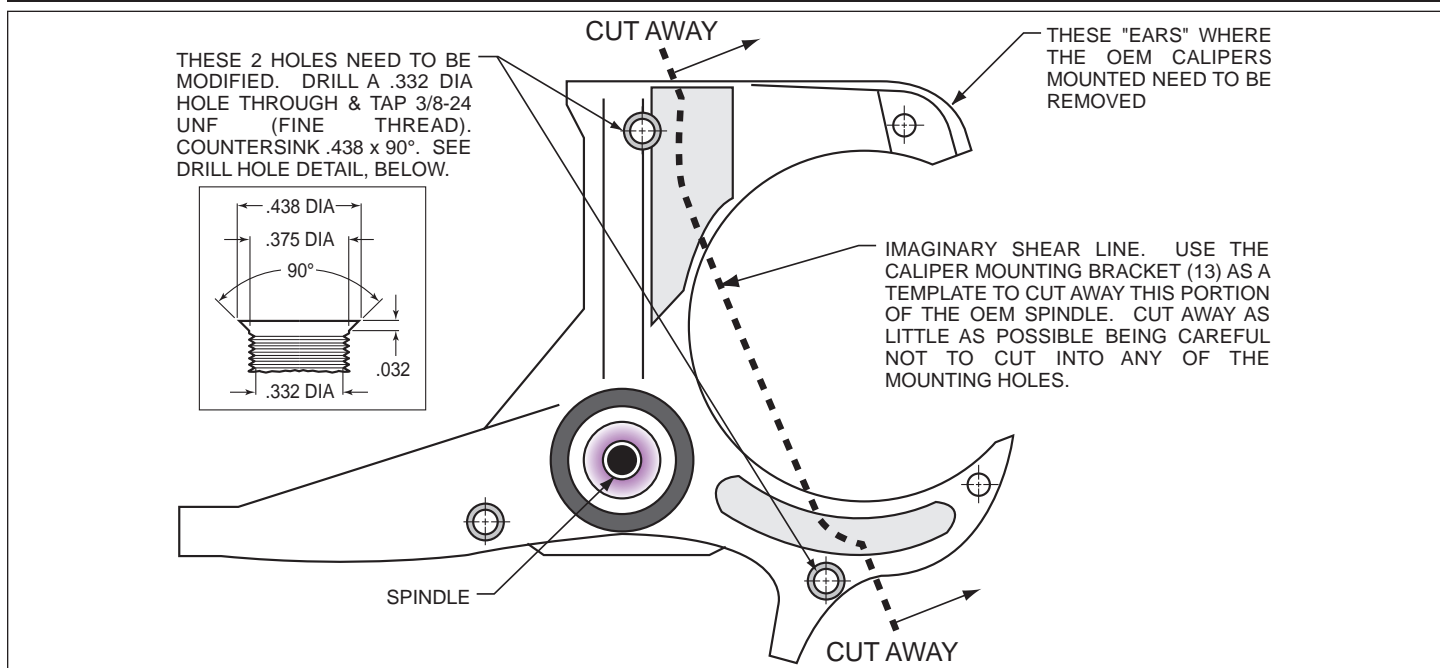

Figure 1. Steering Arm / Spindle Modifications
These modifications should be performed by a qualified machinist. Refer to Figure 1 on the following page as necessary (numbers in parenthesis refer to the parts list on page three). Only one view of the steering arm/spindle is shown, but the modifications need to be performed on both steering arm/spindles.
The two stock holes that will be used to mount the caliper mounting bracket (1) need to be modified (figure 1). Drill a .332 diameter hole through both holes, then tap 3/8-24 UNF (fine thread). Countersink the holes to .438 x 90°. The "ears" that protrude to form a "C" shape need to be removed to facilitate the installation of the Wilwood caliper. Using the caliper mounting bracket (13) as a template, mark two cut marks on the steering arm. Remove as little as necessary from the "C" shape, being careful not to cut away any of the mounting holes required to bolt on the caliper mounting bracket (1).